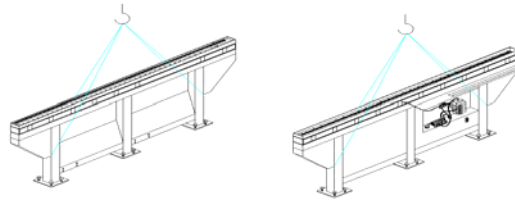

Figure 5
**3) Right Metallic-foot (includes the longitudinal-guide, hydraulic unit and oil-tank) (Figure 5):**
**4) Left Metallic-foot (includes the longitudinal -guide) (Figure 5):**